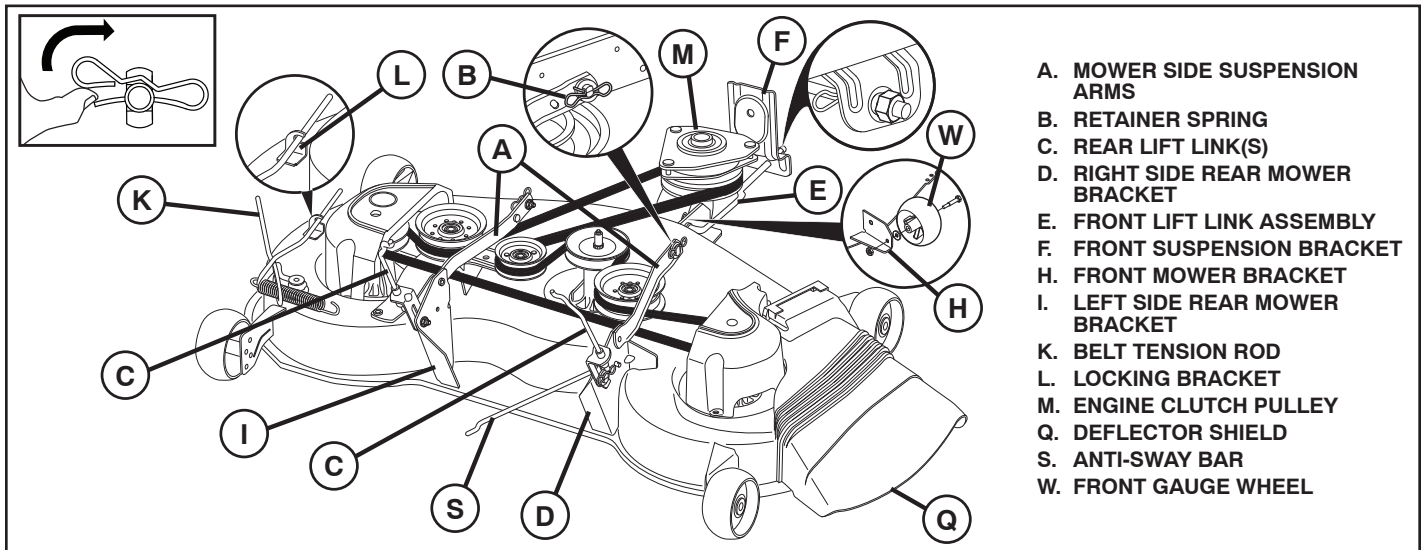

Fig. 20
TO REMOVE MOWER (See Fig. 20)
TO INSTALL MOWER AND DRIVE BELT (See Figs. 20 - 31)
9 INSTALL BELT ON ENGINE CLUTCH PULLEY (M) (See Fig. 20 & 31)
- Disengage belt tension rod (K) from locking bracket (L).
- Install belt onto engine clutch pulley (M).